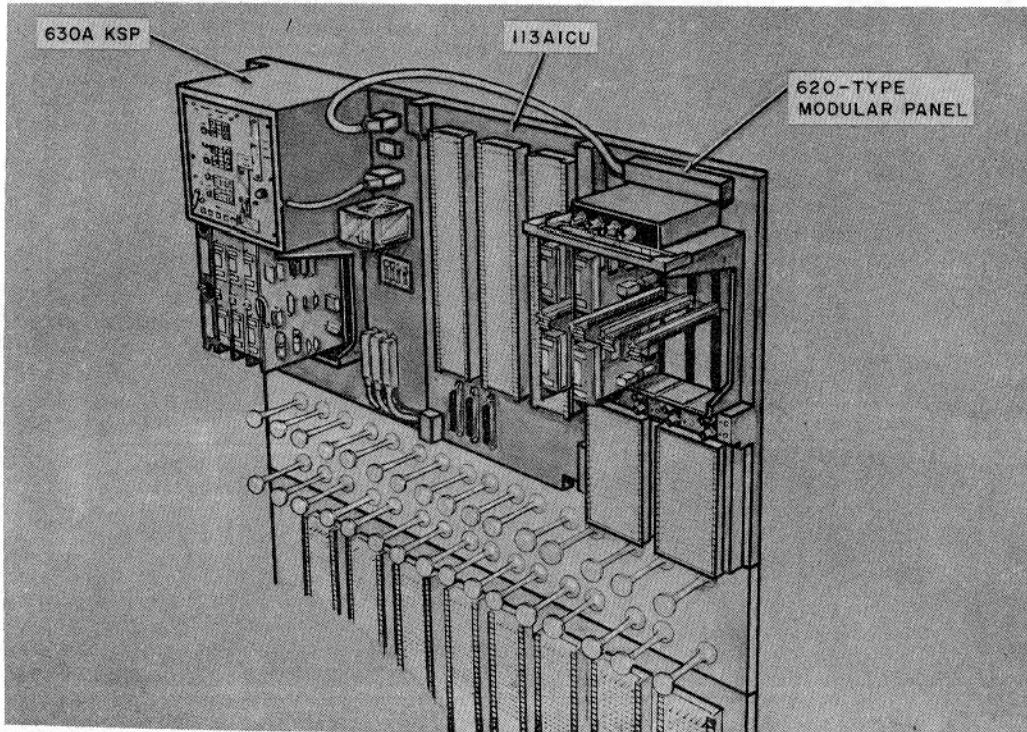

Fig. 7—Typical Large KTS Installation With 630A KSP, 113A1 CU, and 620-Type Modular Panel
**3.08** ♦A preferred installation method is illustrated in Fig. 7 using the 630A KSP (Section 518-215-424) as the first modular panel in a centralized terminal field. The 287A1 power supply in the 630A KSP will power two additional modular panels. With the arrangement in Fig. 7, the installer has the option of using the 113A1 connecting unit (CU) and modular panel terminals as a station terminal (BLUE) field, or may use the 113A1 CU and modular panel terminals as a KTS equipment (RED) field with the station terminal (BLUE) field mounted below.♦